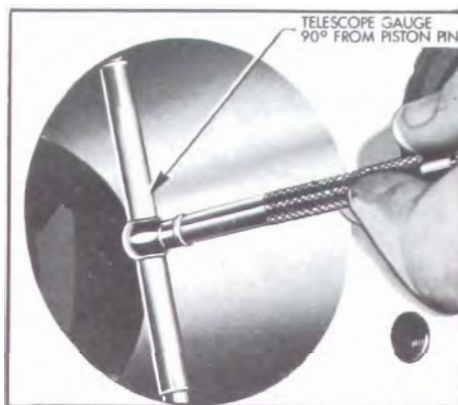

Figure 2-45—Using Telescope Gauge in Cylinder Bore
1. Expand a telescope gauge to fit the cylinder bore at right angles to the piston pin and between 1-1/2" and 2" from the top of the bore. See Figure 2-45.